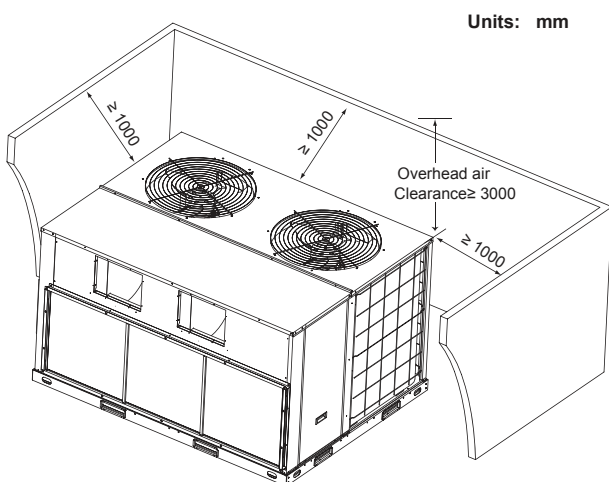

Fig.4-1
- The recommended clearances for single-unit installations are illustrated in Fig.4-1. These minimum requirements are not only an important consideration when determining unit placement, but they are also essential to ensure adequate serviceability, maximum capacity, and peak operating efficiency.